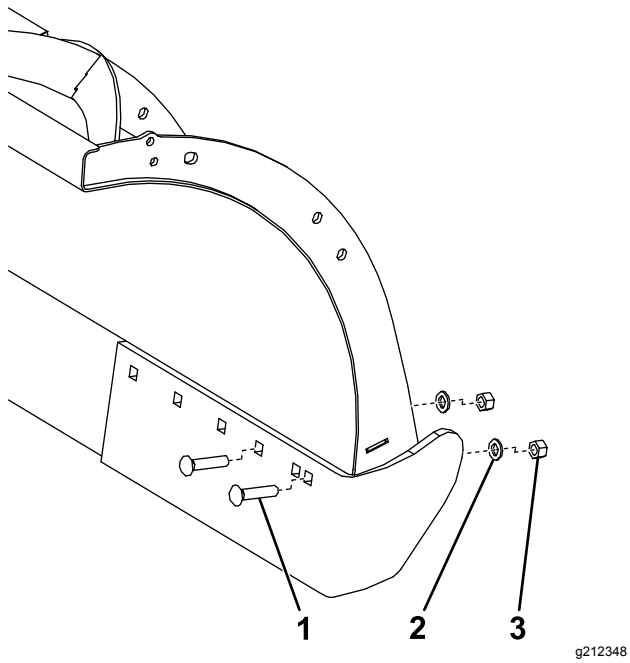

Figure 3
5. Mount the curb guard to the blade using 2 bolts, 2 washers, and 2 locknuts (Figure 3).